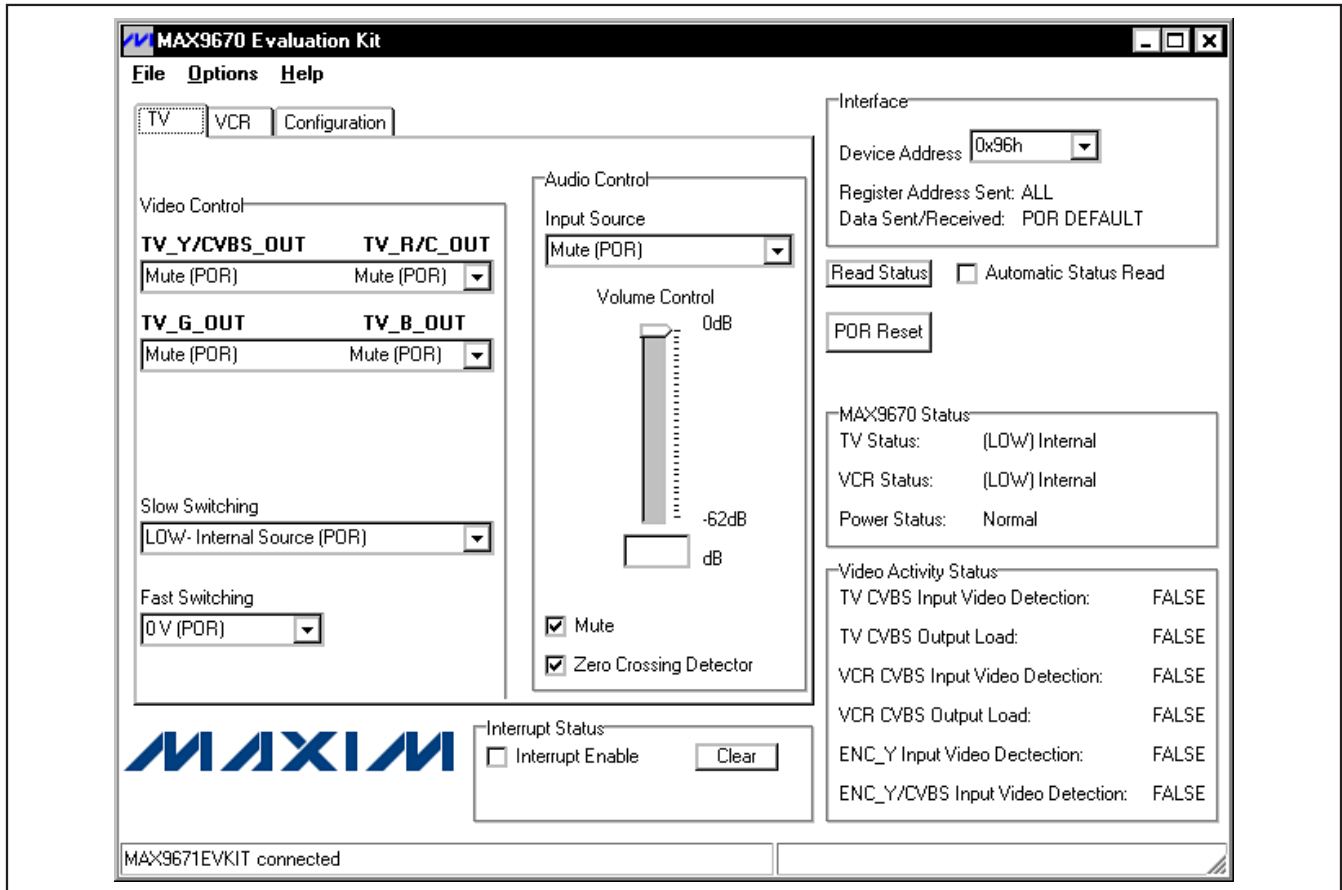

Figure 1. MAX9670 EV Kit Software Main Window (TV Control Tab)
- 16) Start the EV kit software by opening its icon in the **Start | Programs** menu. The EV kit software main window appears, as shown in Figure 1. Observe as the program automatically detects the address of the MAX9670 and starts the main program.
The user interface (Figure 1) is easy to operate. Use the mouse, or press the tab key to navigate with the arrow keys. Each of the buttons correspond to bits in the command and configuration bytes. By pressing them, the correct I²C-compatible write operation is generated to update the internal registers of the MAX9670. The **Interface** group box indicates the current I²C-compatible **Device Address**, **Register Address Sent**, and the **Data Sent/Received** for the last read/write operation. This data is used to confirm proper device operation.
The **Video Control** group box of the MAX9670 EV kit software (Figure 1) allows the user to reroute selected signals to the TV SCART connector. Other functions, such as **Fast Switching** and **Slow Switching**, can also be changed through the **Video Control** group box. Manipulate the drop-down lists to achieve the desired result.